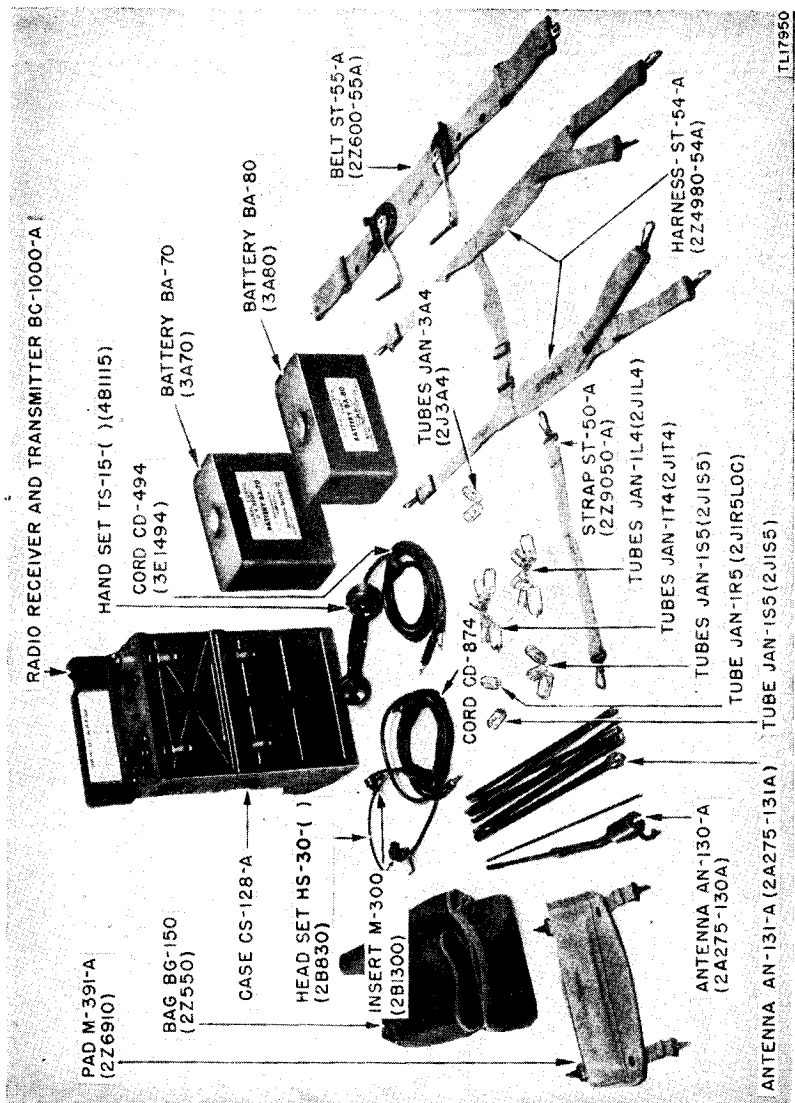

Figure 4. Radio Set SCR-300-A—component parts
The equipment listed in the following table and illustrated in figure 4, is necessary for the operation of Radio Set SCR-300-A. Check and correct this list upon receiving equipment. This table is to be used as a guide and not as a basis for issue.
13. Bag BG-150-A (fig. 4)
Harness ST-54-A, Belt ST-55-A, and Pad M-391-A, when attached to Radio Set SCR-300-A and Case CS-128-A, provide a means for carrying the set during portable operation. Strap ST-50-A is issued to facilitate lifting or carrying the set by hand. (See fig. 4.)